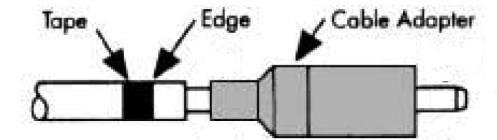

Fig. 6 - Install Cable Adapter
B. Slide cable adapter onto cable until it is flush with the tape marker. (See Figure 6.)